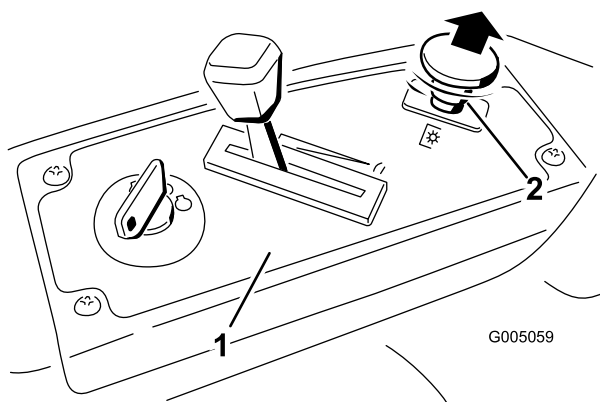

Figure 14
- Pull up on the blade control switch to move it to the On position and engage the blades (Figure 14).